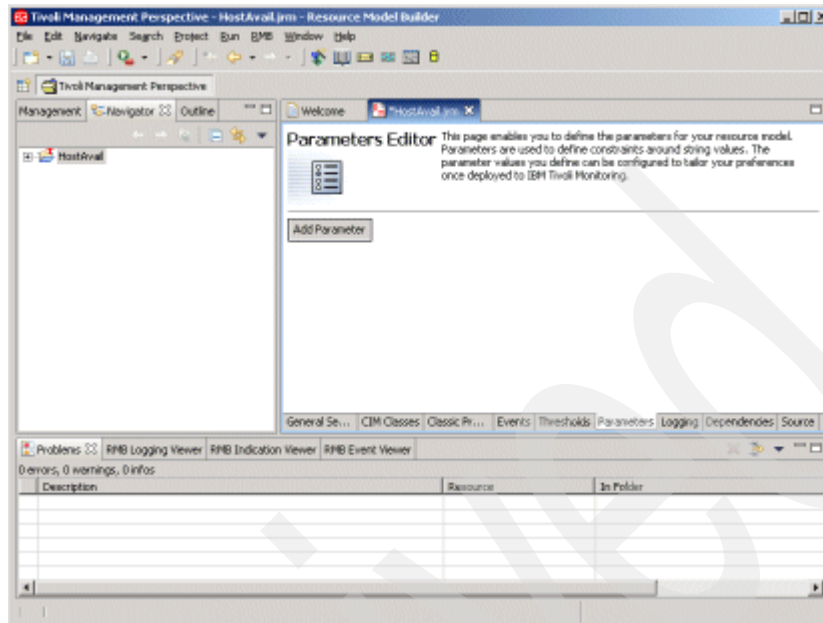

Figure 9-52 Parameters Editor pane
25. Select the Parameters tab. The Parameters Editor pane displays as shown in Figure 9-52 on page 473.